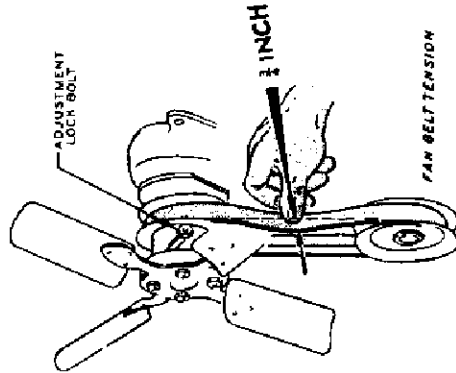

FIG. 8 - FAN BELT TENSION
**FAN BELT TENSION.** - The fan belt tension is regulated by the width of the fan pulley groove. The front half of the pulley turns on the hub. By loosening the two lock bolts and turning the front half of the pulley clockwise, the pulley groove is narrowed and the belt tightened. Turn the pulley counterclockwise to widen the pulley groove and lessen the belt tension. Allow  $3/4$ " play in the belt as shown in the illustration. Fig. 8. Too tight a belt will have a short life and cause excessive strain and wear on the water pump bearings. A belt too loose will slip, wear out rapidly, and will result in inefficient cooling. Be sure that the adjustment lock screws are properly tightened. Check these screws frequently, even when no adjustment is necessary.